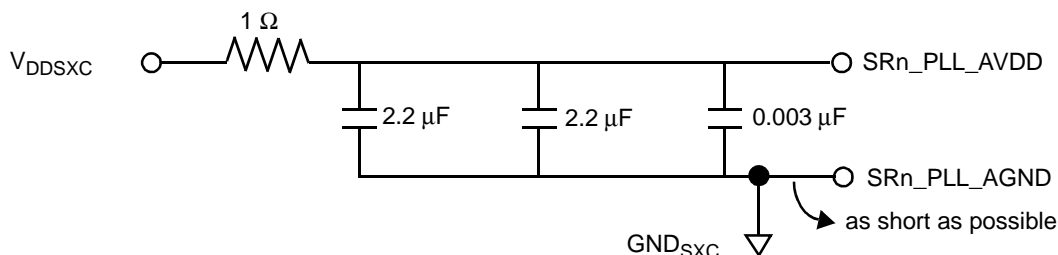

Figure 38. SerDes PLL Supplies
- Couple inputs SR1\_PLL\_AVDD and SR2\_PLL\_AVDD with SXCVDD1 and SXCVDD2 power rails, respectively, using an RC filter (see Figure 38).
Each SerDes PLL power supply must be filtered using a circuit similar to the one shown in Figure 38, to ensure stability of the internal clock. For maximum effectiveness, the filter circuit should be placed as closely as possible to the SRn\_PLL\_AVDD ball to ensure it filters out as much noise as possible. The ground connection should be near the SRn\_PLL\_AVDD ball. The  $0.003\ \mu\text{F}$  capacitor is closest to the ball, followed by the two  $2.2\ \mu\text{F}$  capacitors, and finally the  $1\ \Omega$  resistor to the board supply plane. The capacitors are connected from SRn\_PLL\_AVDD to the ground plane. Use ceramic chip capacitors with the highest possible self-resonant frequency. All trances should be kept short, wide, and direct.